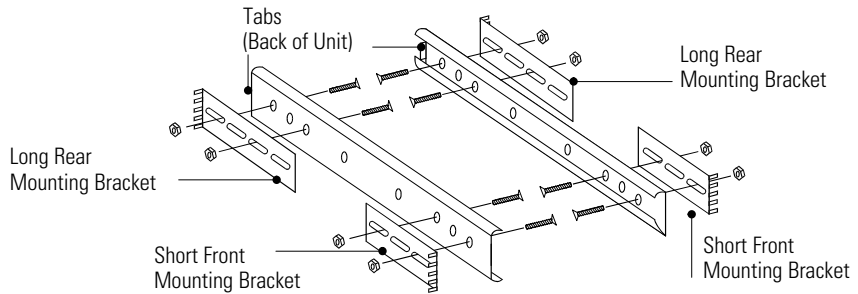

Figure 26. Securing the Brackets to the Outer Rails
3. Secure the supplied long and short mounting brackets to the outer rail using at least two flat-head screws and nuts for each bracket (see Figure 26). Leave all screws finger-tight until the rails are sized for the rack.